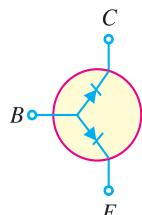

Fig. 8.50
**Summary.** A transistor has two *pn* junctions *i.e.*, it is like two diodes. The junction between base and emitter may be called *emitter diode*. The junction between base and collector may be called *collector diode*. We have seen above that transistor can act in one of the three states : **cut-off**, **saturated** and **active**. The state of a transistor is entirely determined by the states of the emitter diode and collector diode [See Fig. 8.50]. The relations between the diode states and the transistor states are :